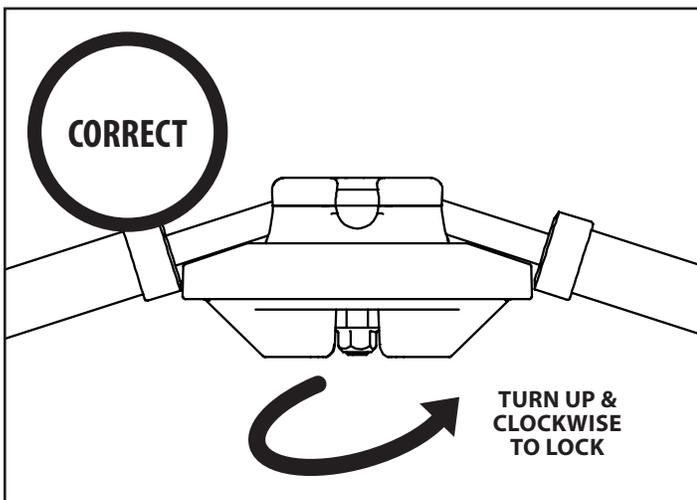

FIGURE 5A - CORRECT INSTALLATION WITH ROOF POLES ON OUTSIDE EDGE OF LOCK HUB
- Spin the roof lock clockwise (upward) to lock roof poles in place. **SEE FIGURE 5A.** You must push upward on roof fabric to make sure roof lock fully engages and that **ALL (4)** poles are on the outside rim of roof lock.
The roof lock should be nested tightly with roof poles on outside edge of the roof lock **SEE FIGURE 5A.** The roof lock is installed wrong if the roof poles are on top of the roof lock leaving a gap **SEE FIGURE 5B.**